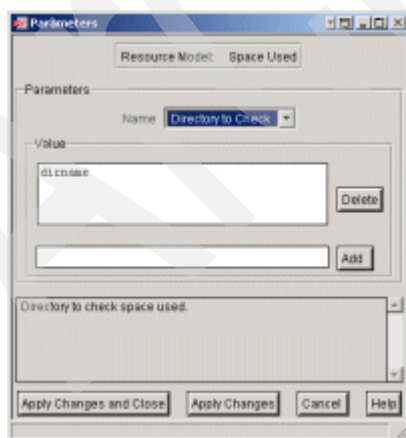

Figure 9-124 Parameters window
4. Select **Parameters**. The Parameters window opens as shown in Figure 9-124.